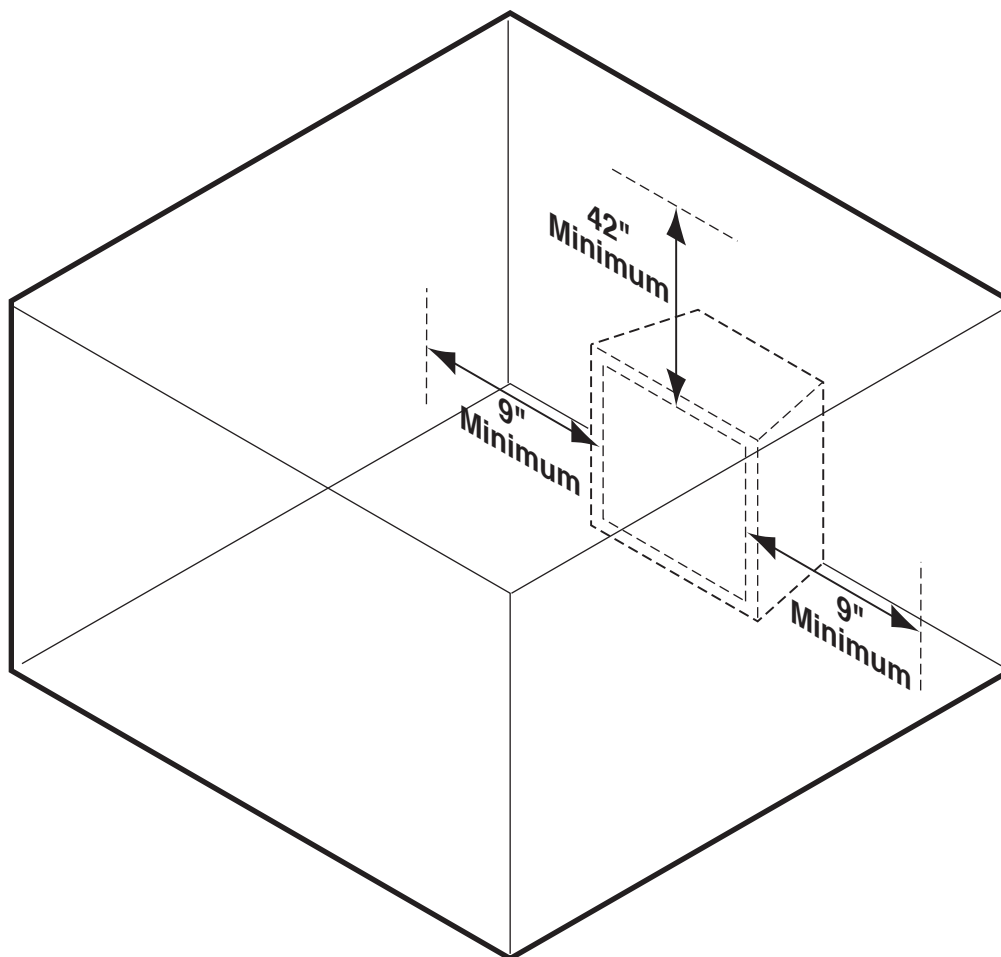

Figure 4 - Clearance and Height Requirements
Ensure that minimum clearances shown in Figures 4 through 7 are maintained. Left and right clearances are determined when facing the front of the firebox.
1. **Sidewall clearances:** The clearance from the inside of the appliance to any combustibile wall should not be less than 9". See Figure 4.
2. **Ceiling clearance:** The ceiling must be at least 42" from the top of the firebox opening. See Figure 4.